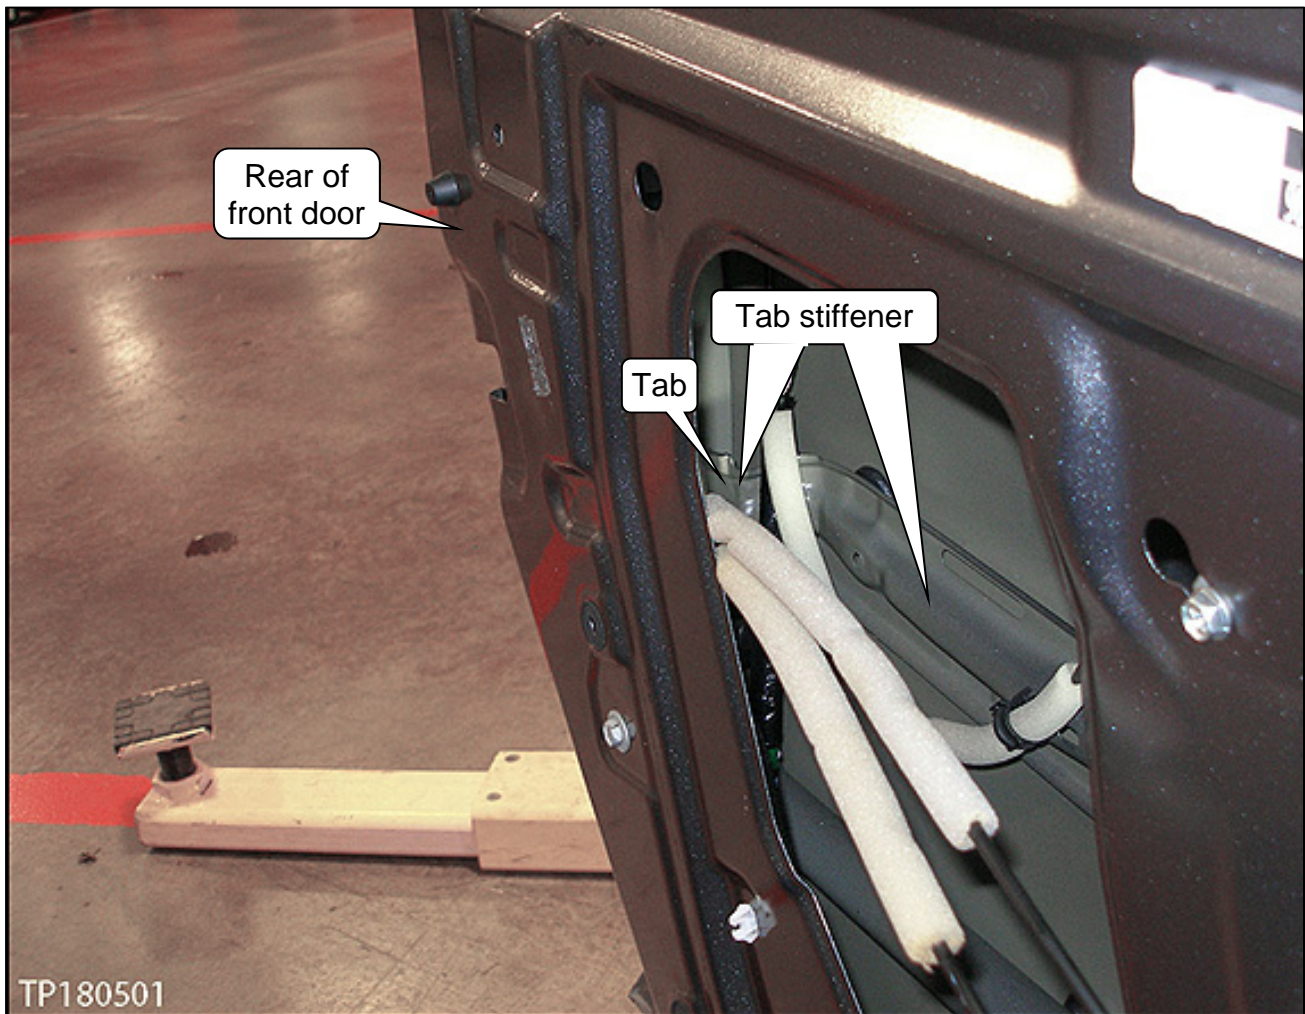
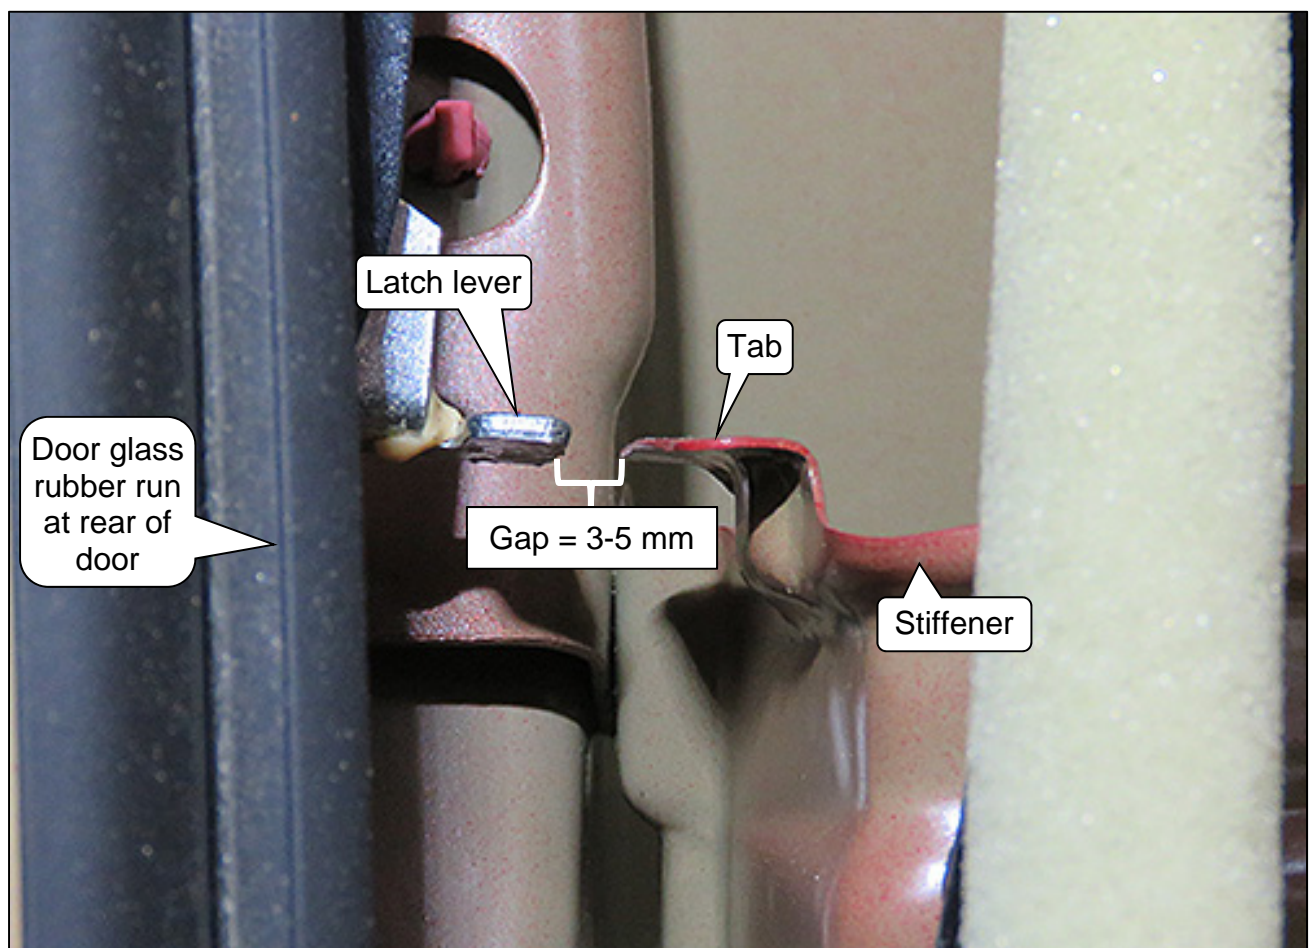

Figure 5
Figure 6
- Refer to Figure 5 below, and Figure 6 on the next page.
13. With the latch lever and tab still level with each other (Figure 6), measure the gap between the latch lever and the tab.